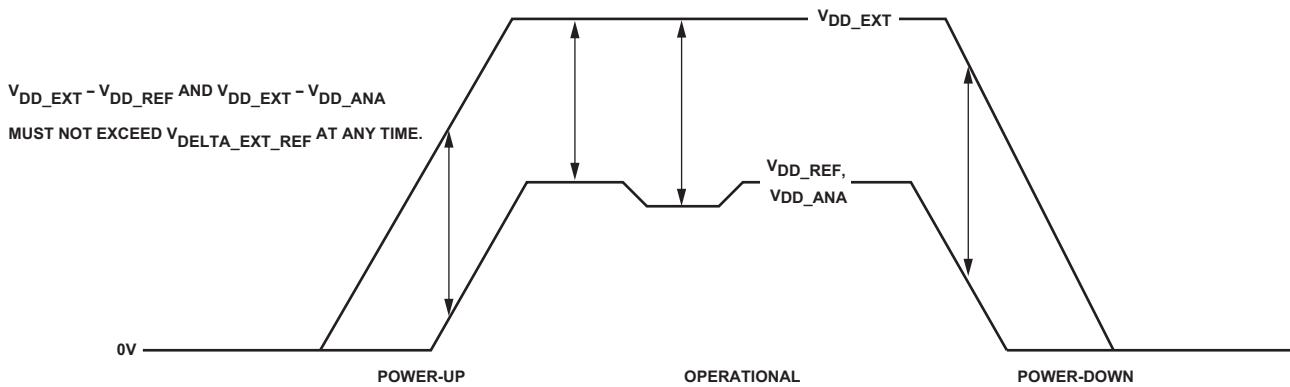

Figure 8. Power-Up and Power-Down Voltage Delta Requirement
1. The $V_{DELTA_EXT_REF}$ specification must be met at all times, including during power-up reset and when powering down the device (**Figure 8**).